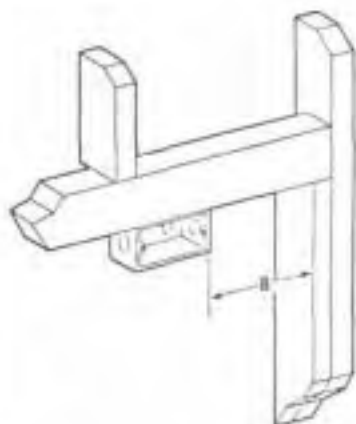

Figure 8
Step 4: Fasten a 2 $\frac{1}{2}$ " x 4" electrical junction box below the header, 8" from the right side of the opening (Refer to Figure 8)